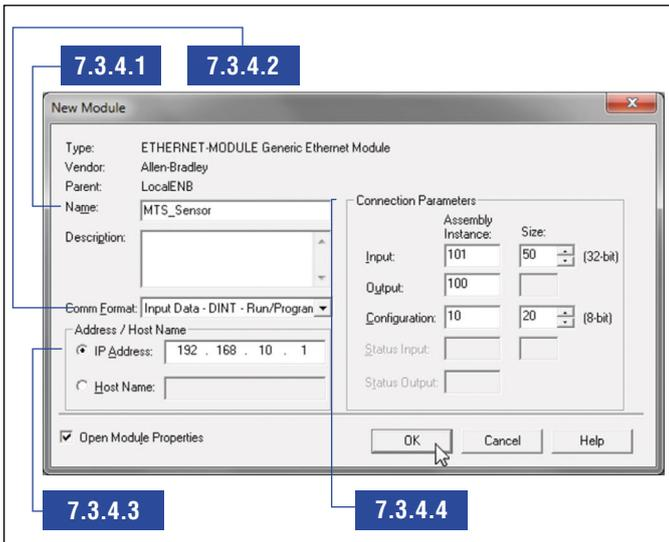

Fig. 121: New Module window
7.3.4 In the “New Module” window (Fig. 121) perform step 7.3.4.1 – 7.3.4.4 to configure the new generic ethernet module to the R-Series V EtherNet/IP™ sensor.